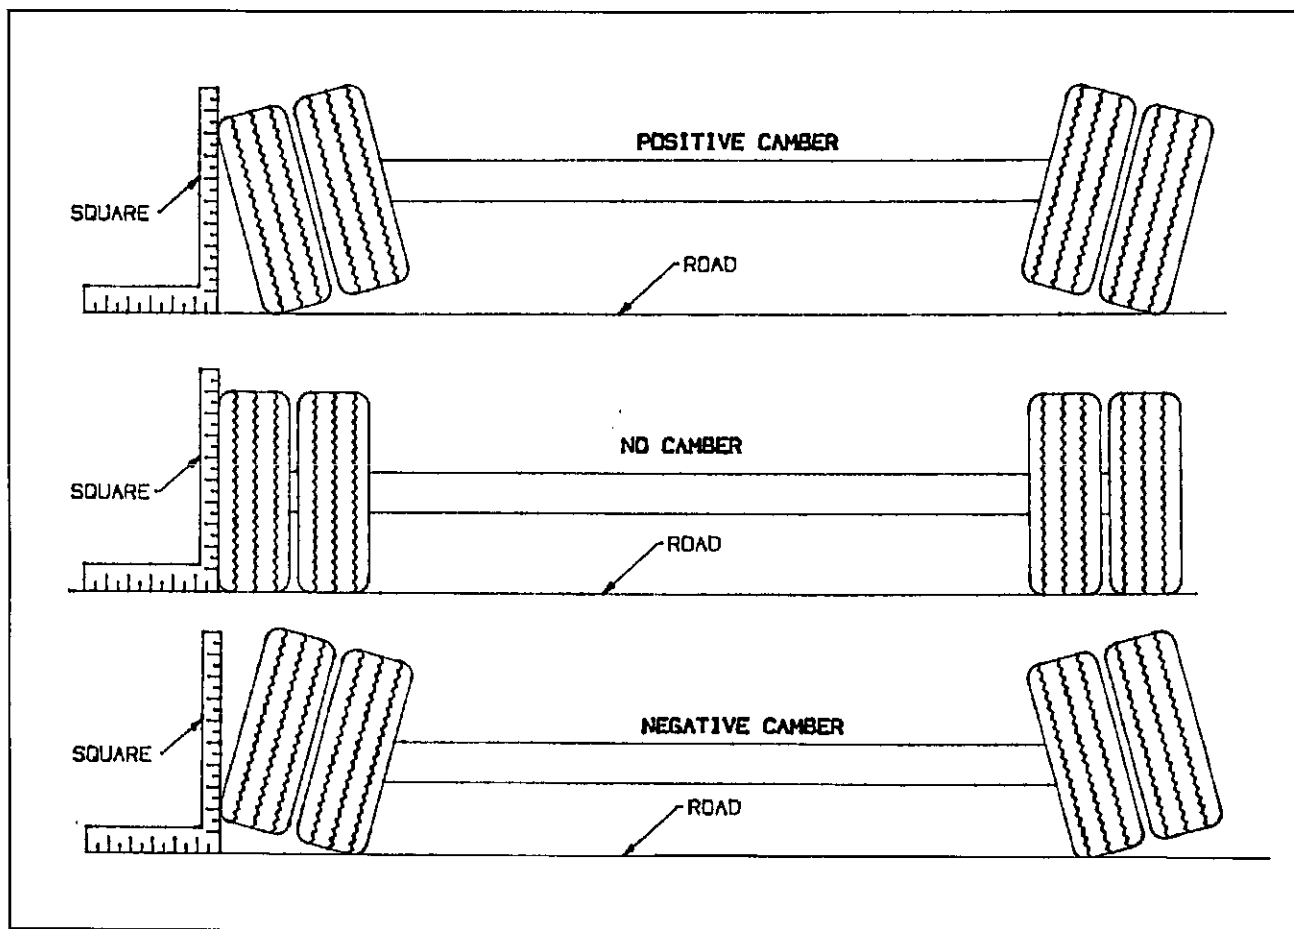

Figure 4-6 Examples of Camber
d. Follow the same procedures as in Paragraph 4-8 b and c, except place the axle gauge above and below the axle. If gauge point gap is found, the axle has positive or negative camber. The semitrailer axle has no camber from the factory. If it is found to have positive or negative camber, axle replacement is necessary (See Figure 4-6 for examples of camber).